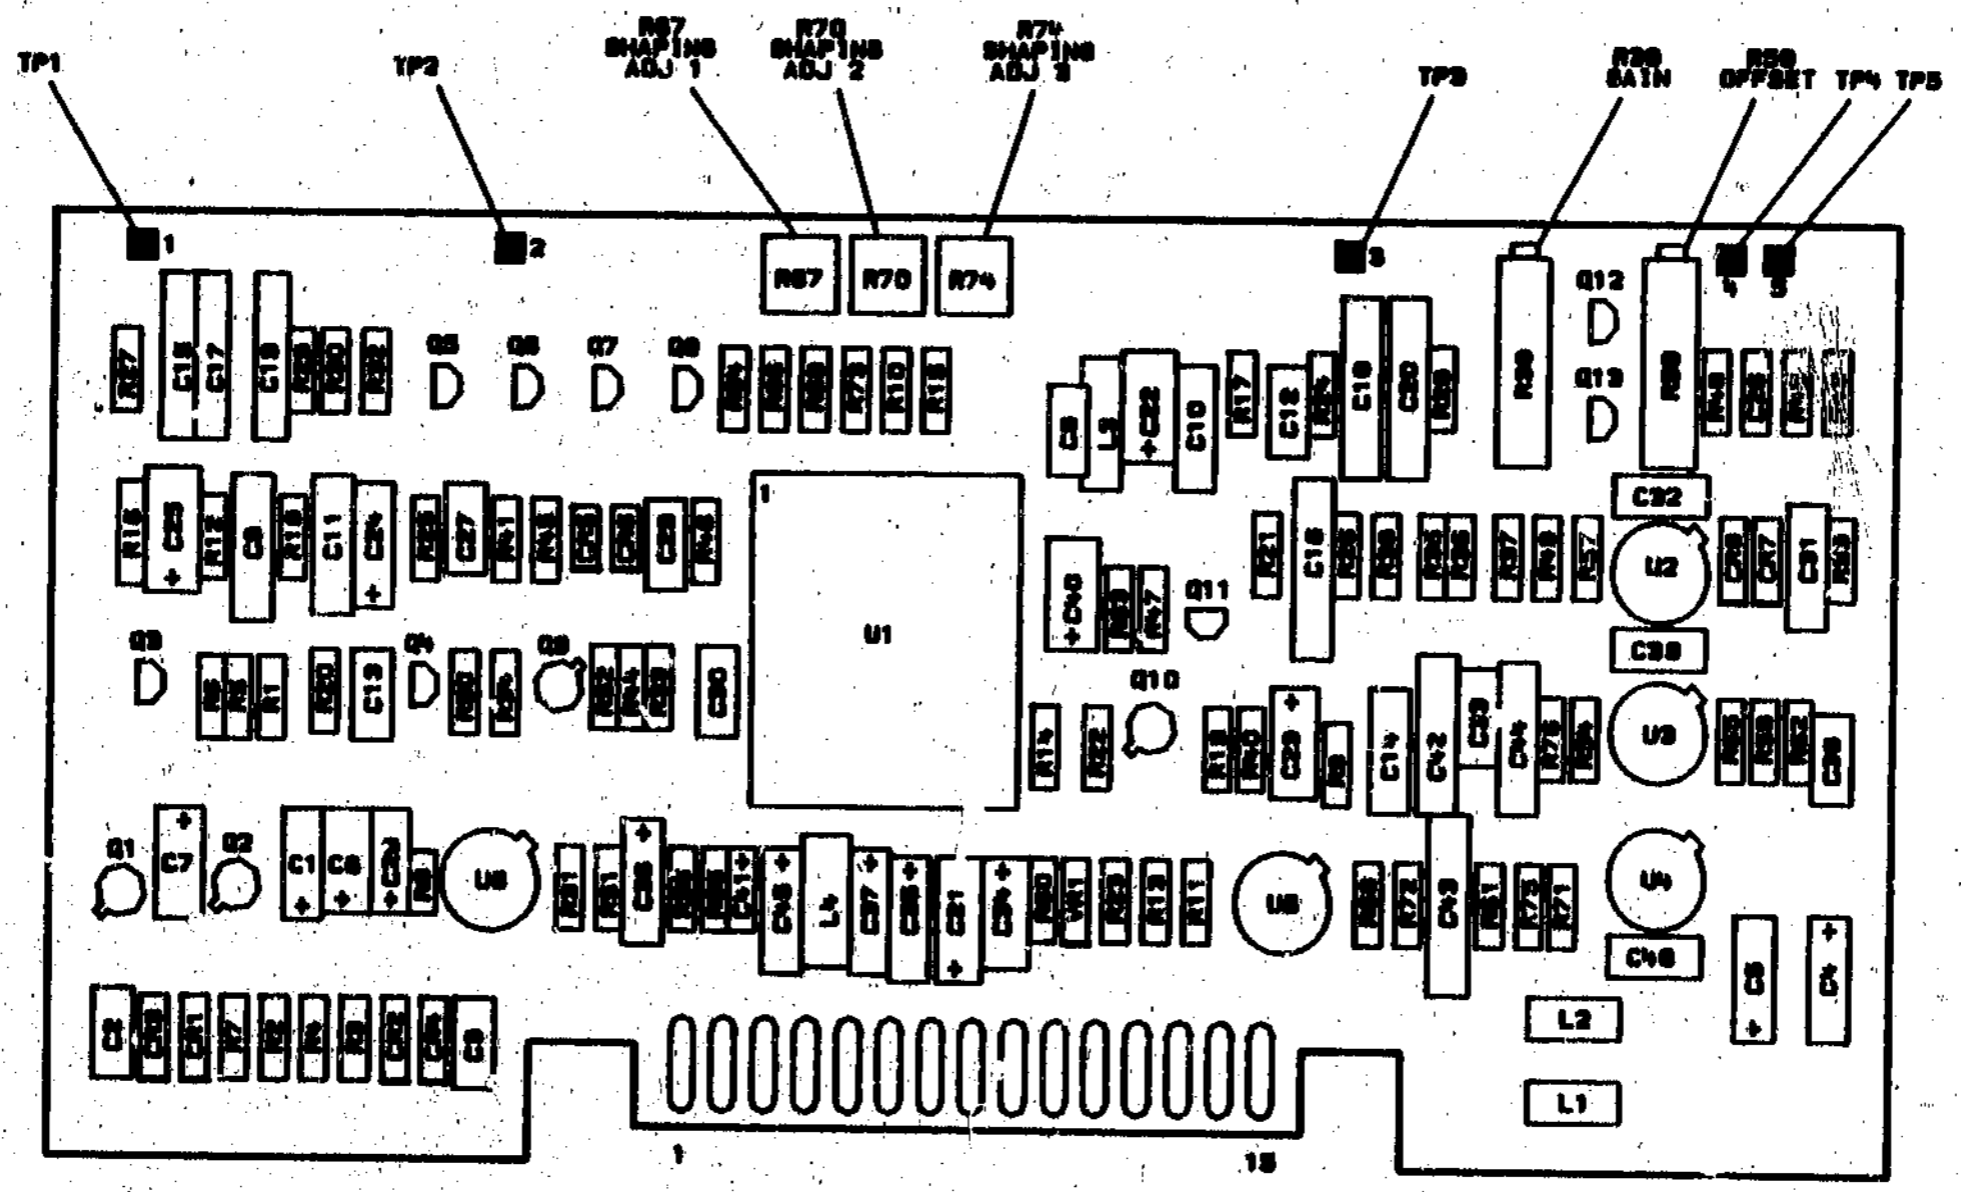

Figure 8-10. A7/KLA8/A9 Component Location Diagram (CHANGE 6)
Page 8-11, Figure 8-10:
- Replace Figure 8-10 with Figure 8-10 from this change sheet (CHANGE 6).